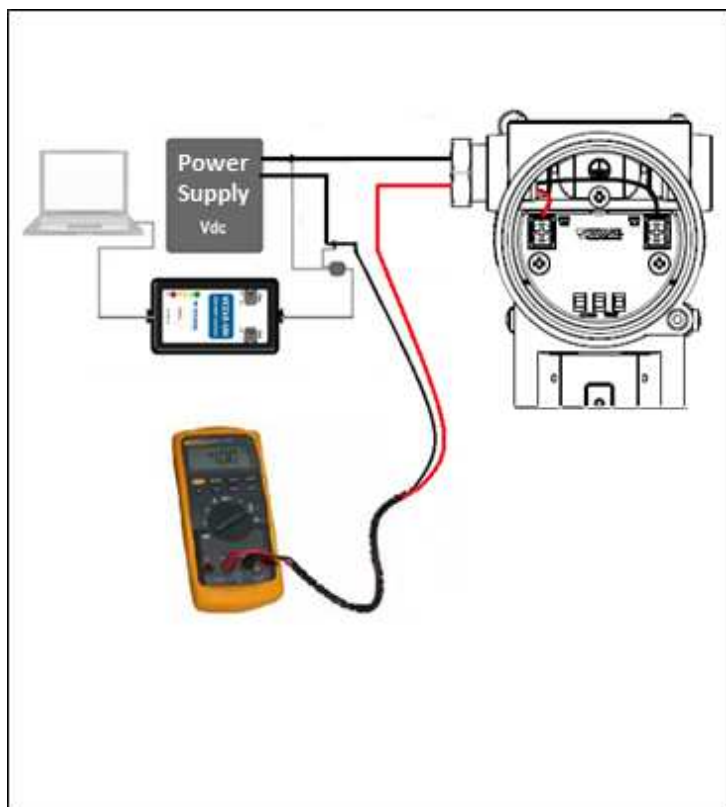

Figure 3.11 –Mounting for current trim on VPT11-H.
Trim – In this directory user can adjust the pressure sensor (calibration of lower and upper points, zero point), the output current (4 mA and 20 mA) and the temperature sensor. Figure 3.11 shows the connection of the multimeter with the transmitter for current trim. See further details in item 3.7, below.
After generating the fixed current through the transmitter, with an ammeter connected in series (see figure 3.11), user can check the actual current generated and send it by means of HART® commands to the equipment, which will perform the internal calibration and generate the corrected current, allowing user to verify the new current in the connected ammeter, automatically. This process can be repeated as many times as user deems necessary, until current is perfectly calibrated at both ends (4 mA and 20 mA).